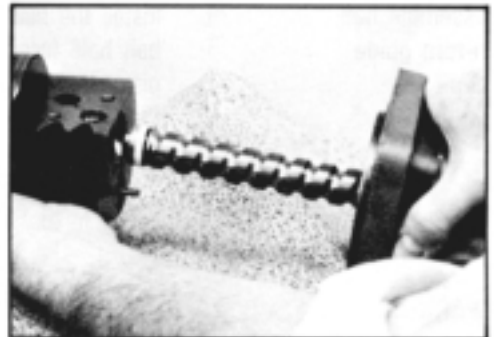

Figure 129
26. Lubricate the rack piston (39) worm bore and worm shaft seal (25) with clean grease. And assemble worm shaft (23) as assembled into rack piston bore so that the rack piston ball guide holes are aligned over the worm shaft ball track grooves and the worm seal is positioned in the rack piston worm bore. SEE FIGURE 129.